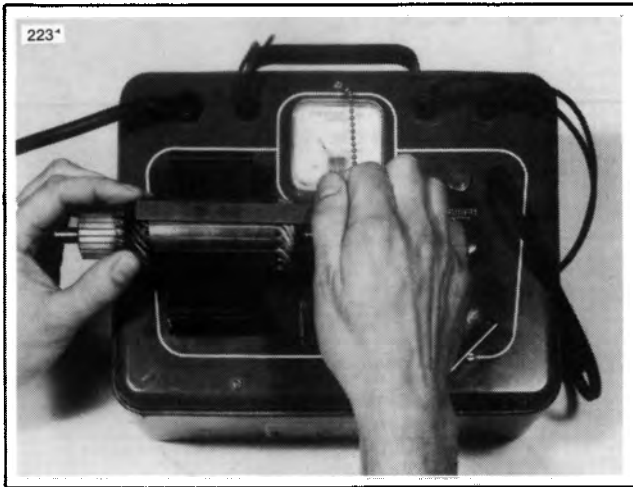

Figure 5-8. Testing for Shorted Armature
6. See Figure 5-8. Test the armature for short circuits using an armature growler. Place the armature on the growler and turn it on.